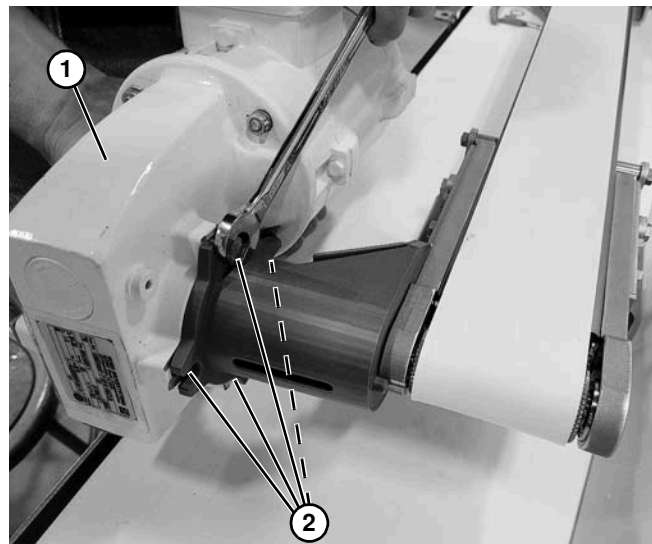

Figure 17
6. Secure gearmotor (Figure 17, item 1) with four screws (Figure 17, item 2).